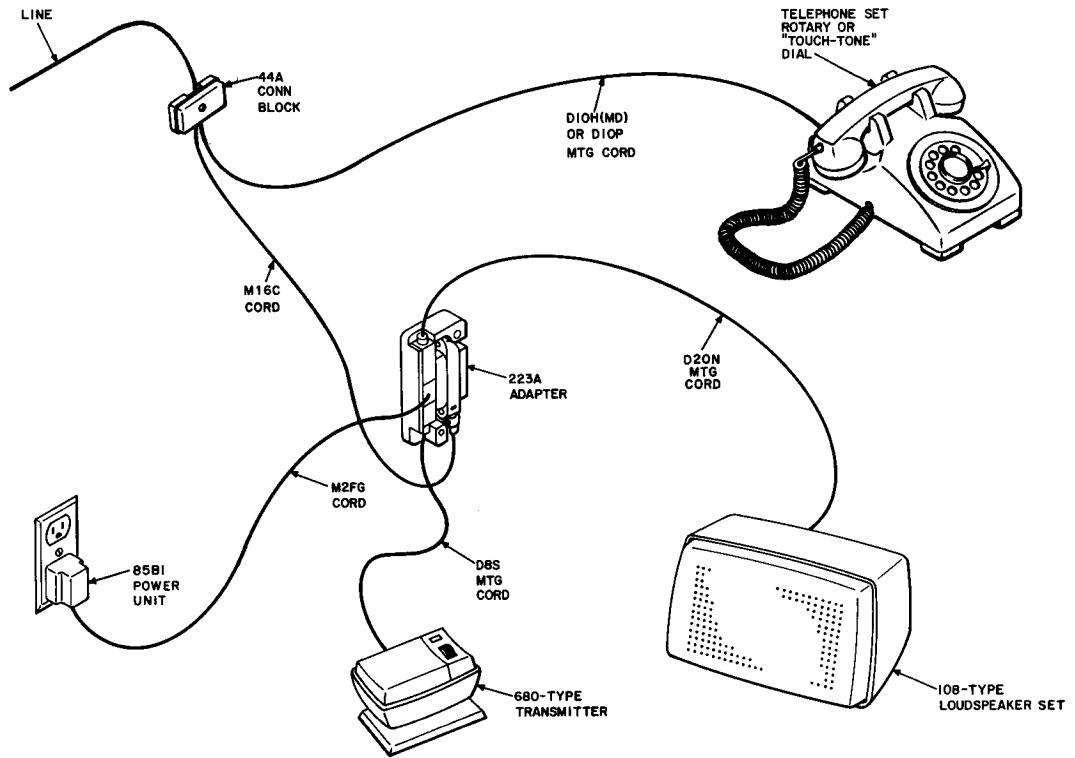

Fig. 1—Speakerphone Arrangement, 500S or 2500S Telephone Set
**1.03** To provide 4A speakerphone feature at the 500- and 2500-type telephone sets, refer to Fig. 1 or 2 for layout arrangement of the components required for the system and Fig. 2 through 6 for individual lead connections.
**2.04** Power can be supplied by connecting 85B1 power unit as shown in Fig. 1 through 6.